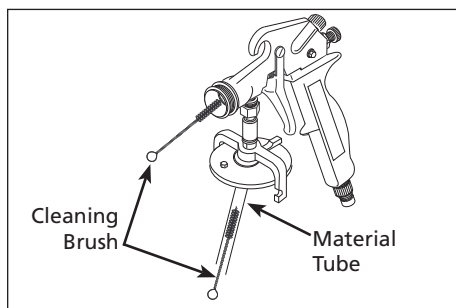

Figure 13 - Cleaning The Material Tube
4. Use cleaning brush (saturated with solvent) to clean material tube and nozzle (See Figure 13).